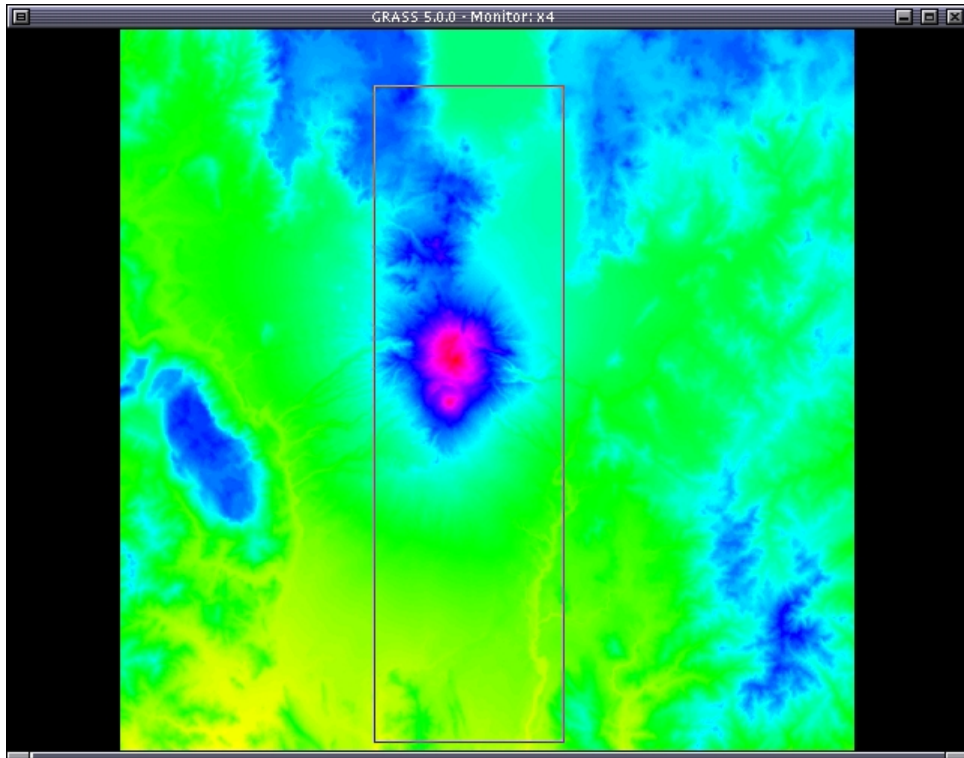
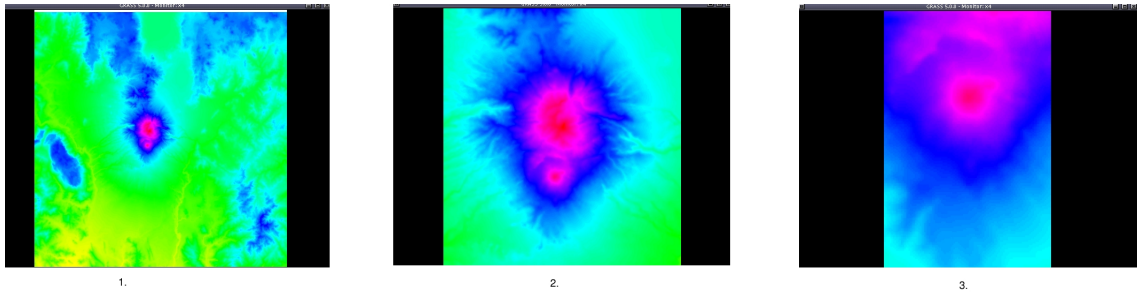

Figure 3.13: Original DEM
Figure 3.14: Zooming in on a desired region within a DEM
**New Monitor** button if you want to reuse your active GRASS monitor. Specify the region of interest from the original DEM (figure 3.13). Figure 3.14 exhibits “zooming in” on a region of interest by using the following sequence of mouse clicks to draw a box around the region: